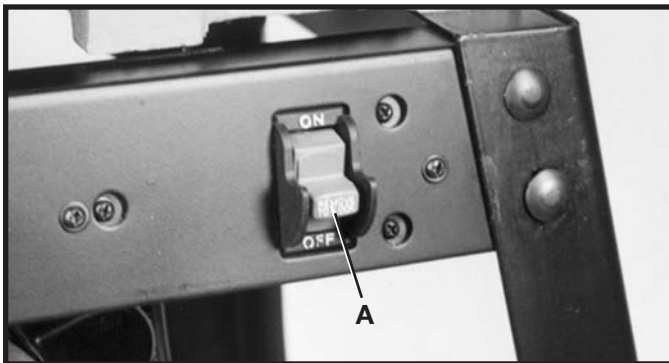
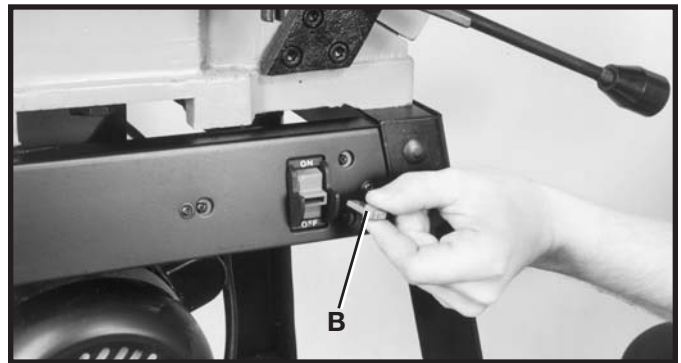

Fig. 33
Fig. 34
1. The on/off switch (A) Fig. 33 is located on the front of the jointer. To turn the machine **"ON"**, move switch (A) up to the **"ON"** position.
IMPORTANT: When the tool is not in use, the switch should be locked in the **"OFF"** position to prevent unauthorized use. To lock the switch, grasp the switch toggle (A) Fig. 33 and pull it out of the switch. With the switch toggle (B) Fig. 34 removed, the switch will not operate. However, should the switch toggle be removed while the saw is running, the machine can be turned **"OFF,"** but cannot be restarted without re-inserting the switch toggle (B).